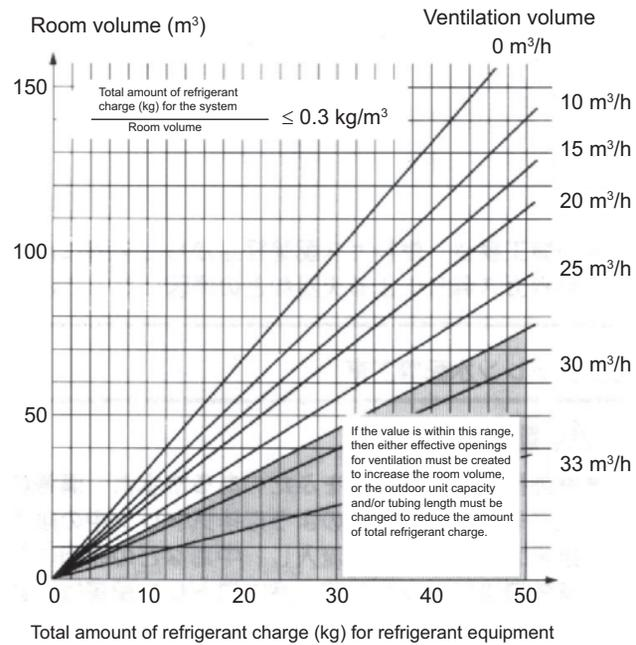

Fig. 7 Selecting a System According to Ventilation Volume
The maximum values for the refrigerant charge that can be selected for each room volume are indicated by the area outside the range of diagonal lines in Fig. 7. If the value is within the range of the diagonal lines, then either effective openings for ventilation must be created to increase the room volume, or the outdoor unit capacity and/or tubing length must be changed to reduce the amount of total refrigerant charge. However, this is not necessarily the case when 2 or more independent measures are taken to ensure the safety of persons inside the room in the event of refrigerant leakage.
- (c) The ventilation volume of the mechanical ventilation devices must be at or above the volume shown in Fig. 7, according to the amount of refrigerant gas and room volume.
- If the following is true in Fig. 7, then ventilation devices with the indicated ventilation volume are required: $2/3 > \text{Total amount of refrigerant charge for the system} / \text{Room volume} > 0.3$
- The range indicated by in Fig. 7 is the range in which: $\text{Total amount of refrigerant charge for the system} / \text{Room volume} \geq 2/3$. If the value is within the range indicated by , either the room must be enlarged (for example, by removing a door connecting to the next room), or the outdoor unit must be reduced in size.